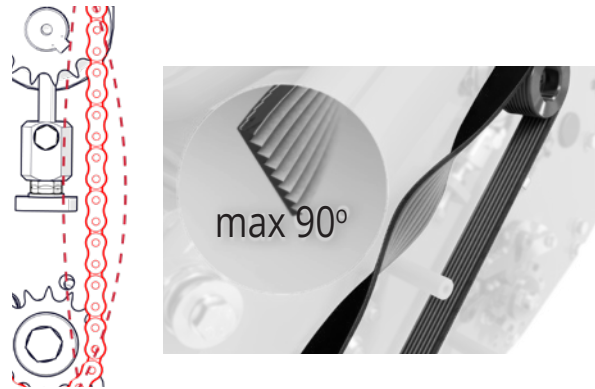

Fig. 15H - Check the amount of deflection in the chain (8-10 mm) / belt twist tension
8. Check the tension of the chain/belt. There must be no more than 10 mm deflection (chain) or 90° twist (belt) (Fig. 15H). Re-adjust the locknut if necessary.